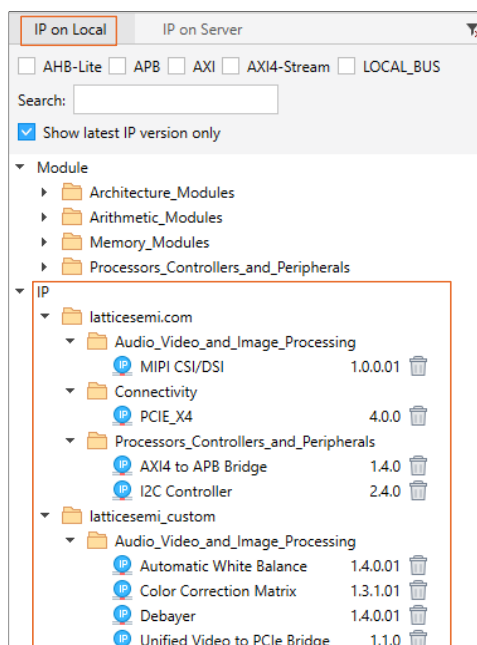

Figure 5.2. IP on Local Tab in IP Catalog
4. Before reconfiguring the IP, ensure that the IP is downloaded and installed under **IP on Local** as shown in Figure 5.2. In this reference design, you need to install a few IPKs into **IP on Local**. To install the IPKs, follow these steps: